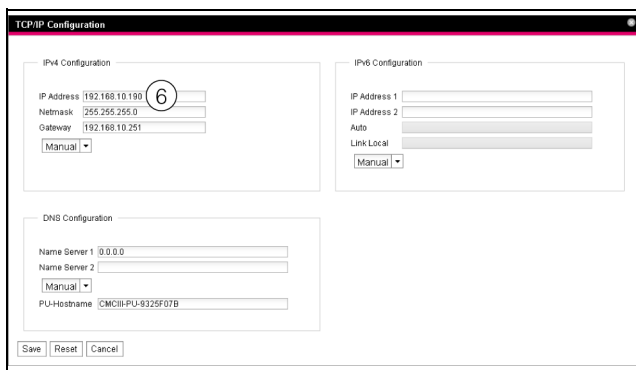

Fig. 14: Customising the TCP/IP settings
- Change the IP address of the device in the **TCP/IP Configuration** window in the **IPv4 Configuration** group frame to an address permitted in the network (fig. 14, item 6).